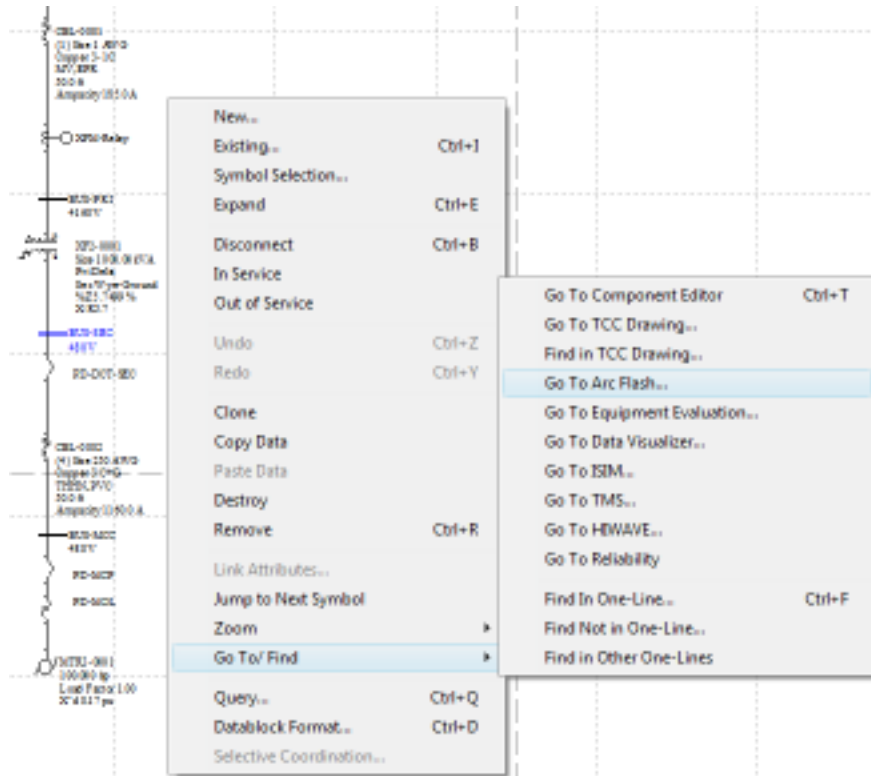

Figure 11
10. Select the BUS_SEC from the one-line drawing. Right-click and choose Go To/Find > Go To Arc Flash to analyze the study results for the bus which is within the protection zone of differential relay (Figure 11).